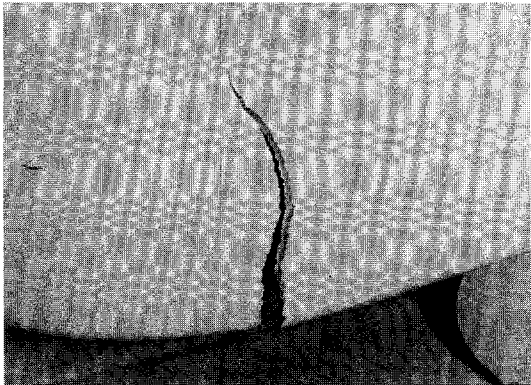

Figure 14-1
1. Using clean rags, clean thoroughly for a considerable distance in every direction around the damaged area (Figure 14-1).